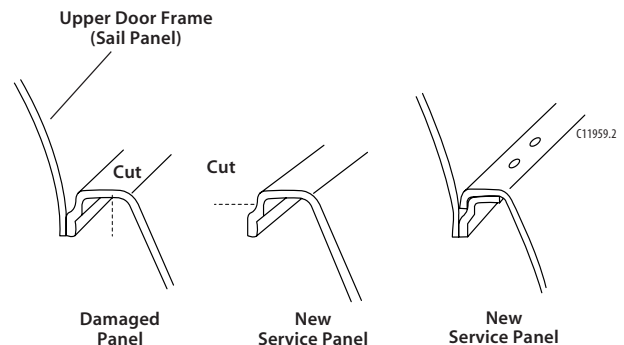

Figure 9-2:
1. Trim the upper mounting flange on the service panel so that it can fit properly over the tab from the original service part (figure 9-2).